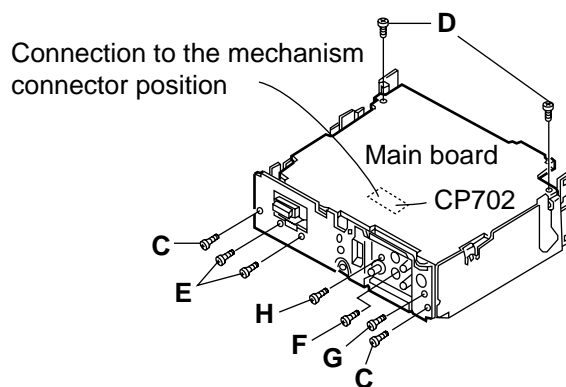

Fig. 4
■ Removing the main board (see Fig.4)
■ Removing the rear panel (see Fig.4)